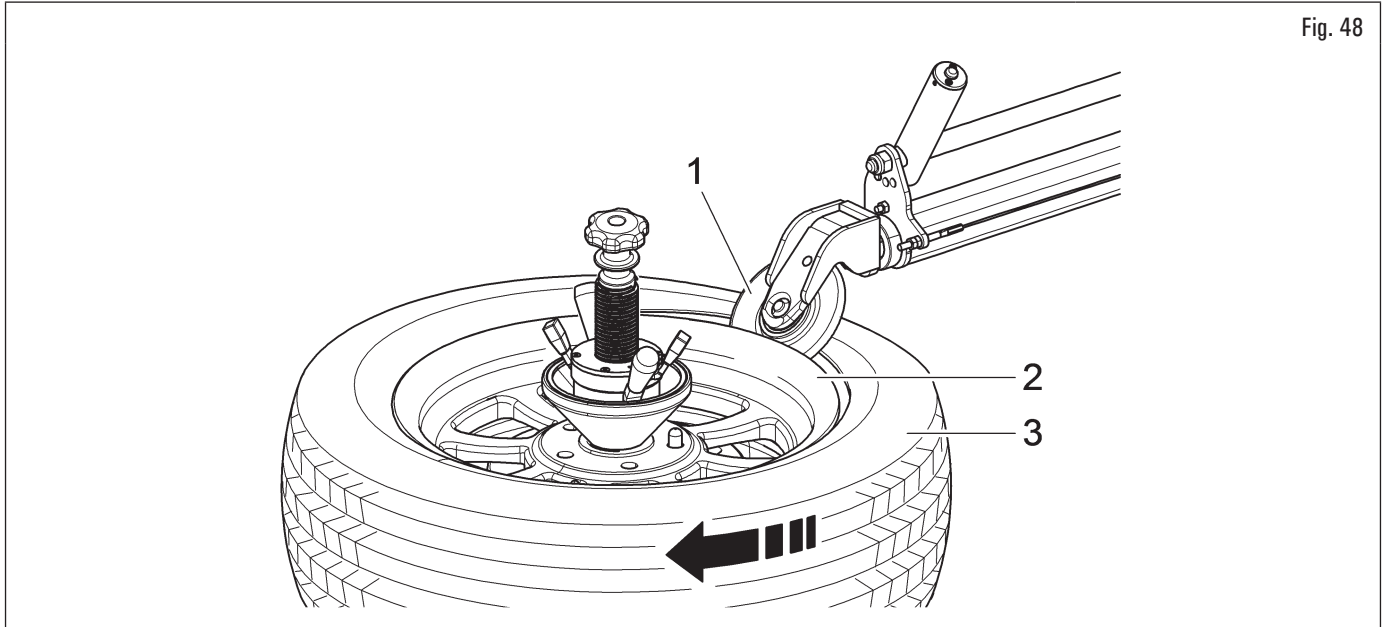

Fig. 48
6. when the valve is at "3 o'clock", press the upper bead breaker roller downwards until sufficient space has been created to activate the cam. Then introduce the roller (Fig. 48 ref. 1) between rim (Fig. 48 ref. 2) and tyre (Fig. 48 ref. 3);